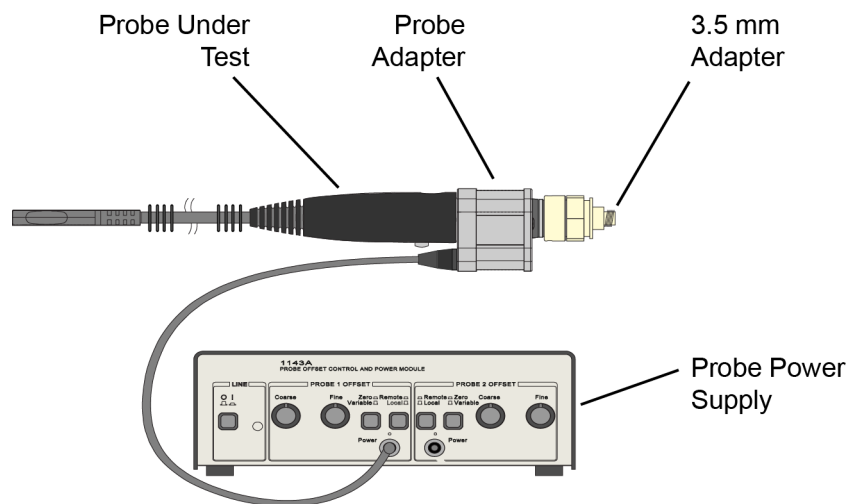

Figure 212 Probe Connected to Power Supply
- 6 Connect the probe under test to the Auto Probe Adapter and power the probe using the 1143A power supply **Figure 212** on page 221. Install the outside thread adapter to the Auto Probe Adapter.